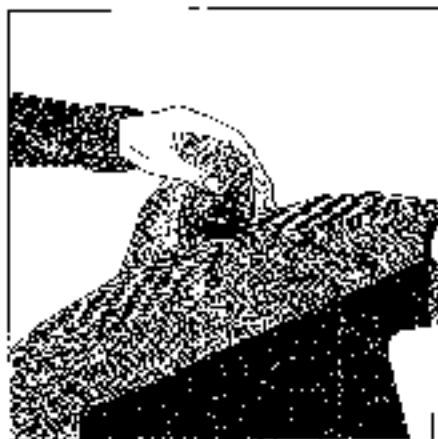

Figure 14-1:
To keep from hurting your hand, place a cloth over the cap after you raise the lever (see Figure 14-1).
2. **Tilt the cap as you remove it so that the opening points away from you (and anyone else nearby) — again, see Figure 14-1.**